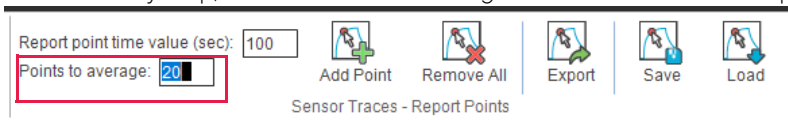

Figure 4-81: Entering the Points to Average
2. Enter a value in the **Points to average** box (Figure 4-81). This takes an average of the data points centered around the report point time value. For example, if the report point value you entered was 100 seconds and the points to average is 20, the software will average the combined 10 data points just before the 100 second mark and 10 data points at and just after the 100 second mark. If the report point time is set to the beginning or end of the assay step, the software will average the first or last 20 data points of the assay step.